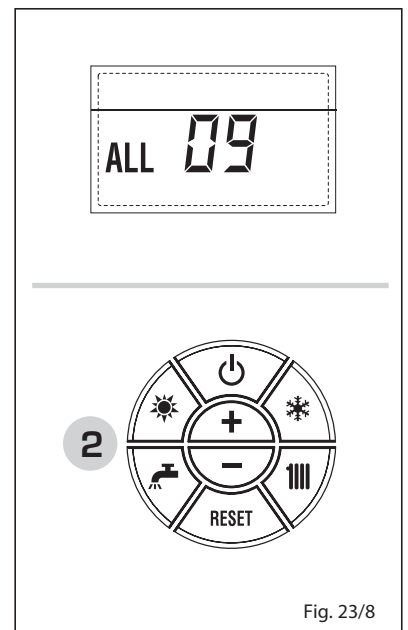

Fig. 23/8
- AUXILIARY SENSOR ANOMALY ALARM 10 (fig. 23/9)